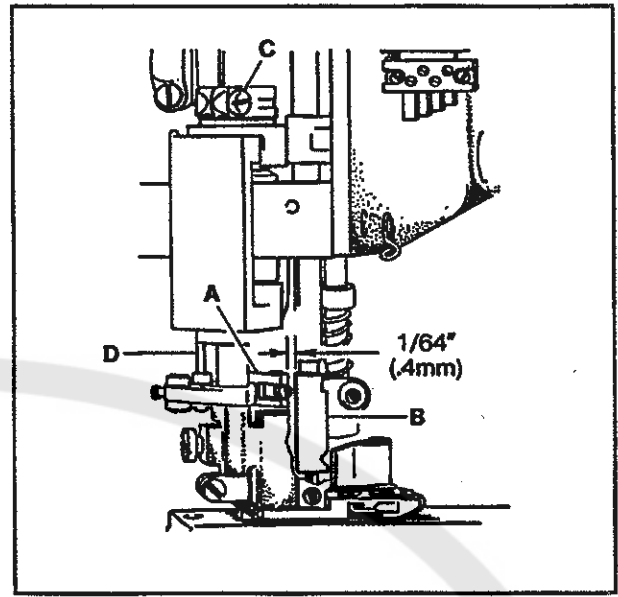

FIG. 20
Turn the handwheel in operating direction until link (A, Fig. 20) has traveled fully to the front. There must be a $1/64"$ (0.4mm) clearance between link (A) and the back of needle head (B) when link (A) starts to jackknife. Loosen screw (C) and rotate driving sleeve (D) to position link (A). Tighten screw (C).